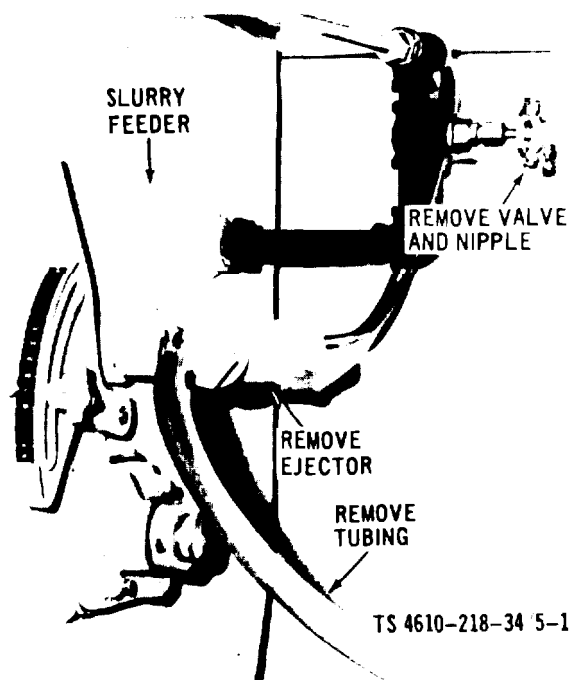

Figure 5-1. Slurry Feeder Raw Water Piping, Removal and Installation
(1) Remove the raw water piping as shown in figure 5-1.
(7) Install the raw water piping as shown in figure 5-1.